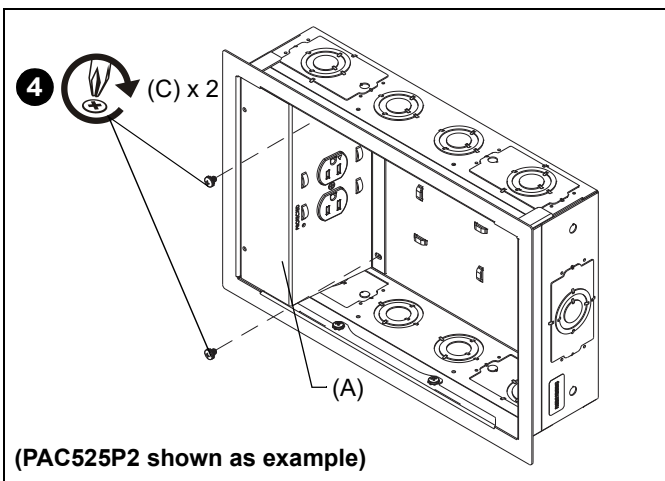

Figure 4
4. Secure power kit assembly to in-wall box using two or three 10-24 x 1/4" Phillips SEMS screws (C). (See Figure 4)